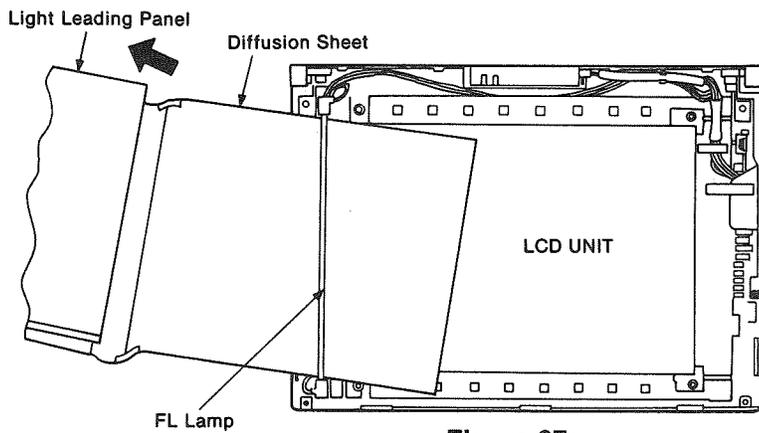

Figure 37
- (2) Carefully slide and take out the light leading panel the diffusion sheet as shown in Figure 37.